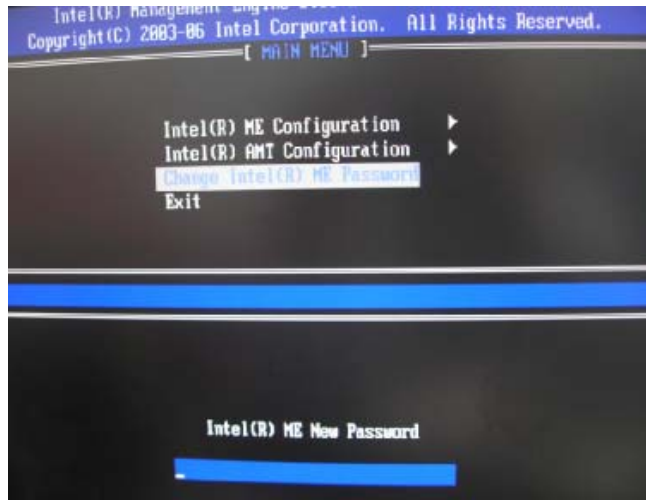

Figure 7-3: Change Intel® ME Password
- Step 3:** To change the password, select **Change Intel® ME Password**. Enter a new password following the strong password rule (containing at least one upper case letter, one lower case letter, one digit and one special character, and be at least eight characters). (**Figure 7-3**)